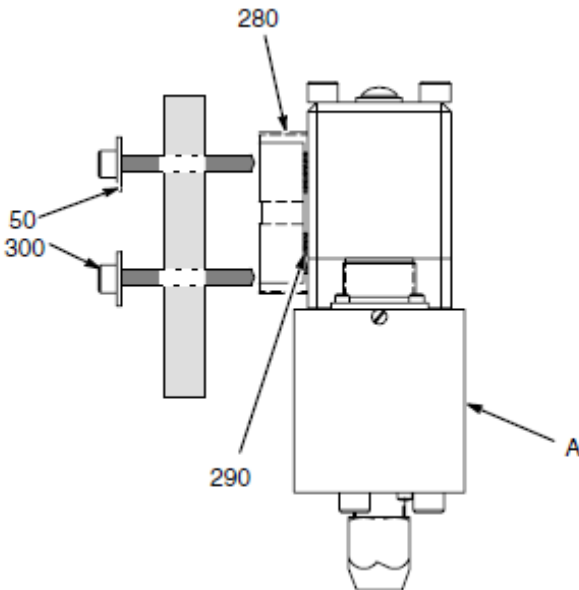

FIG. 1
Mount the automatic dispense valve to the mounting bracket on a stationary support or robotic arm (FIG. 1), using two socket head screws (300) and two flat washers (50). Be sure to position the insulation block (280) and insulation tape (290) between the dispense valve and the mounting bracket.